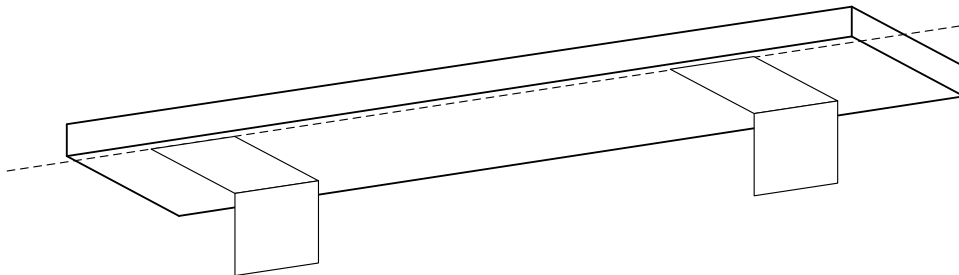

Figure 3 Cassette bracket inside mount alignment
- Measure and mark the bracket locations in the window, being sure that the brackets are exactly parallel to each other and aligned at the front. See Figure 3. To mount the cassette so that the front is flush with the wall above, set the brackets $\frac{1}{2}$ " back from the opening.